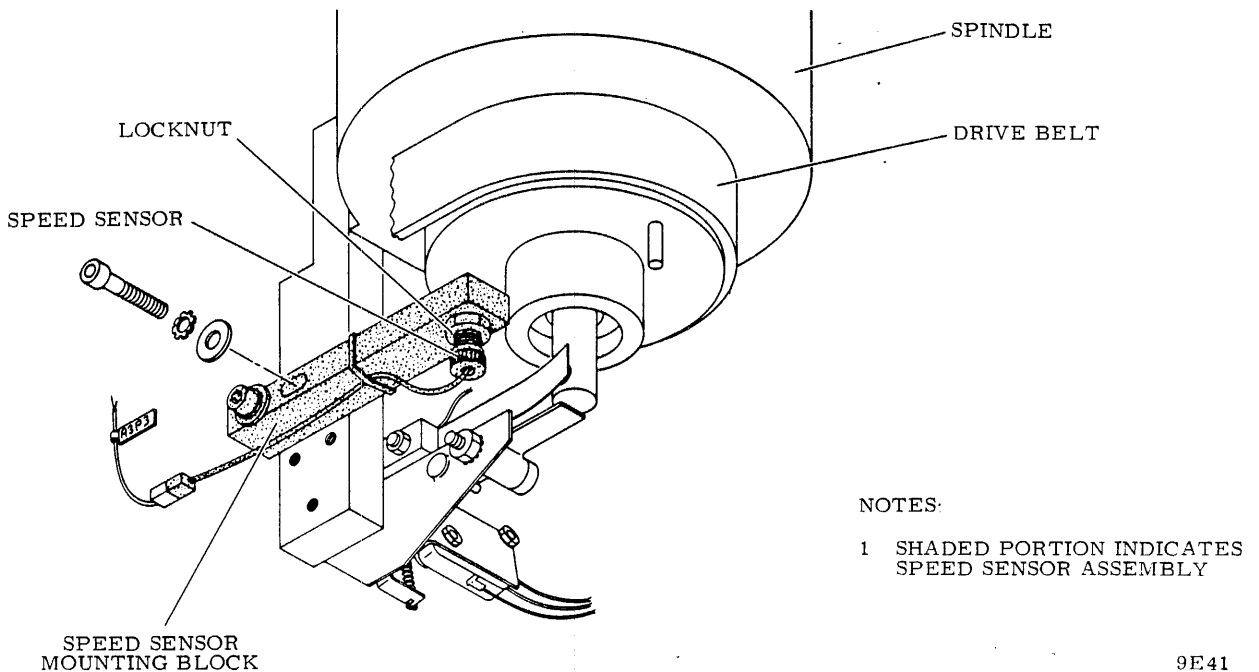
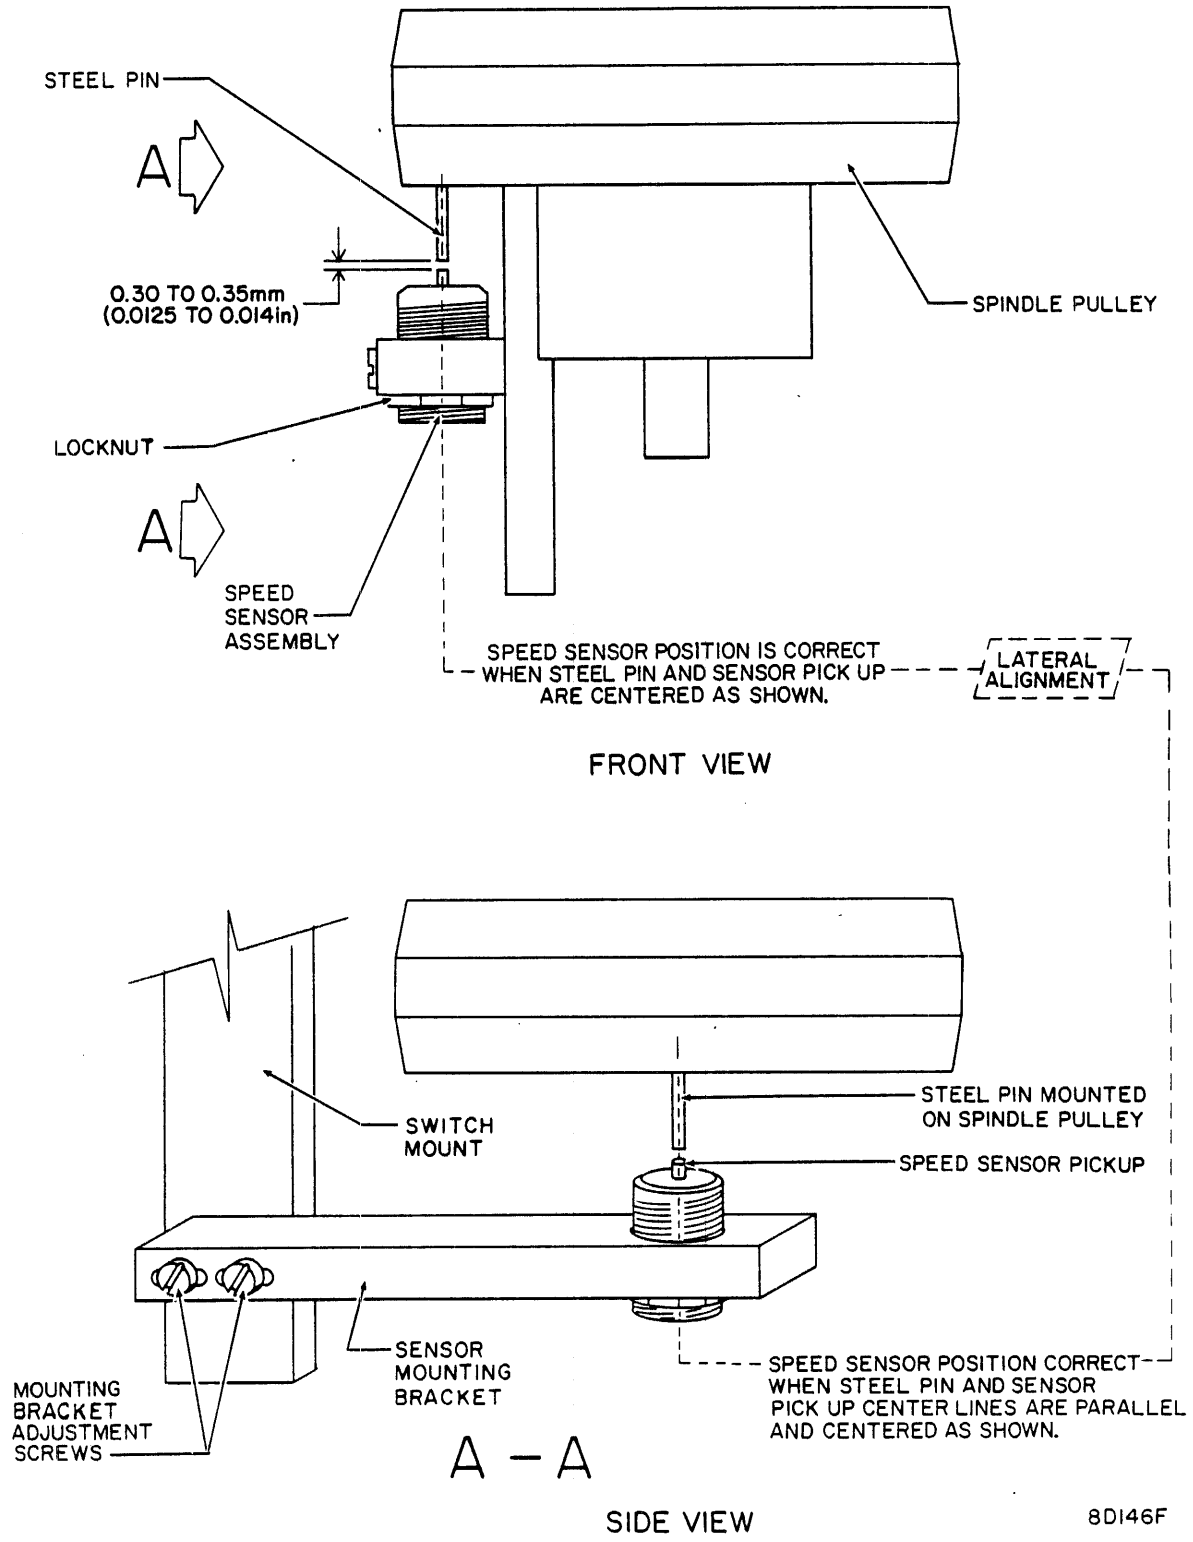

Figure 6-28. Speed Sensor Assembly Replacement
Figure 6-30. Speed Sensor Assembly Adjustment (S/C 08 and Below)
5. Refer to figure 6-28 and remove speed sensor assembly as follows:
- b. If steel pin will not center over sensor tip (refer to figure 6-28) proceed to step 5. If it is centered as in figure 6-30 proceed to step 6.
5. Adjust lateral alignment as follows (refer to figure 6-30):
6. Check gap between steel pin and sensor tip as follows (refer to figure 6-30):
6. Remove hardware securing groundspring mounting bracket to pack sensor assembly mounting block (refer to figure 6-30), then remove groundspring and mounting block.